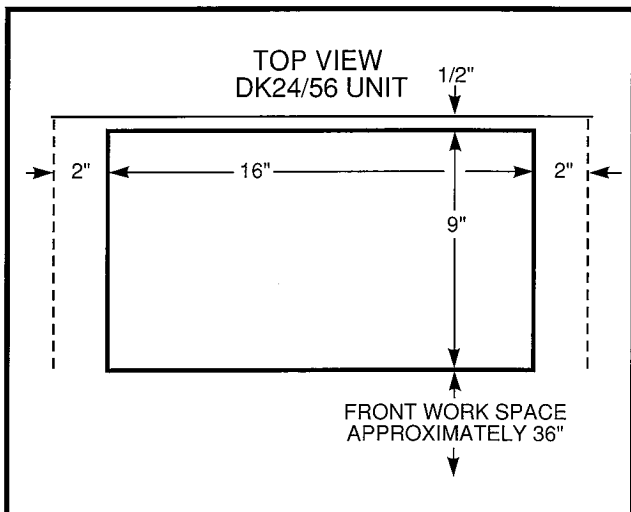
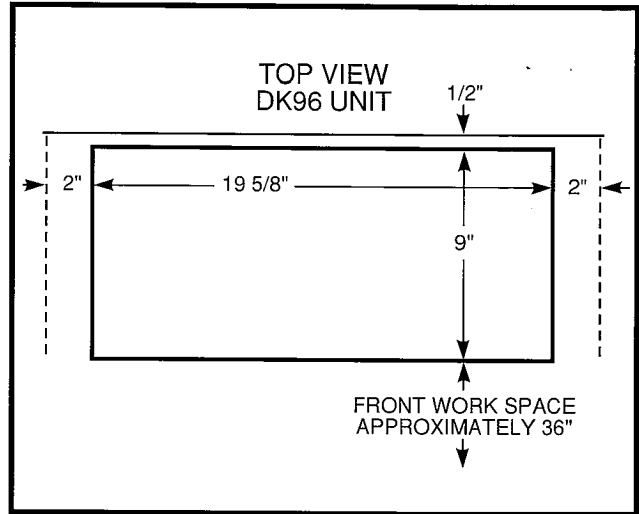

FIGURE 3-1—DK24/56 MINIMUM CLEARANCE REQUIREMENTS
FIGURE 3-2—DK96 MINIMUM CLEARANCE REQUIREMENTS
3.01 The KSU may be table-top or wall mounted. Figure 3-1 (DK24/56) and Figure 3-2 (DK96) show the minimum clearance requirements for both mounting options.